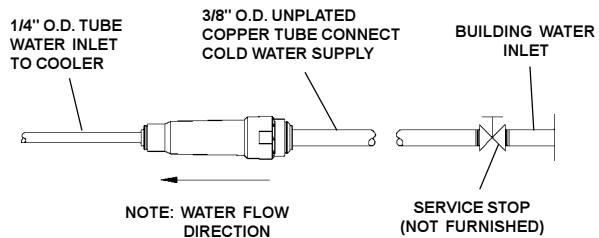

FIG. 5
6. Connect the fountain to the supply line with a shut off valve and install a 3/8" (10mm) unplated copper water line between the valve and strainer. Push the tubes straight into the fittings until they reach a positive stop, approximately 3/4". See Figs. 5 and 6. **DO NOT SOLDER TUBES INSERTED INTO THE STRAINER AS DAMAGE TO THE O-RINGS MAY RESULT.**
11. Stream height is factory set at 35 PSI. If supply pressure varies greatly from this, turn adjustment screw on regulator (item 23). Clockwise adjustment will raise the stream height and counter-clockwise adjustment will lower stream height. For best adjustment, stream should hit basin approximately 6-1/2" from the bubbler.